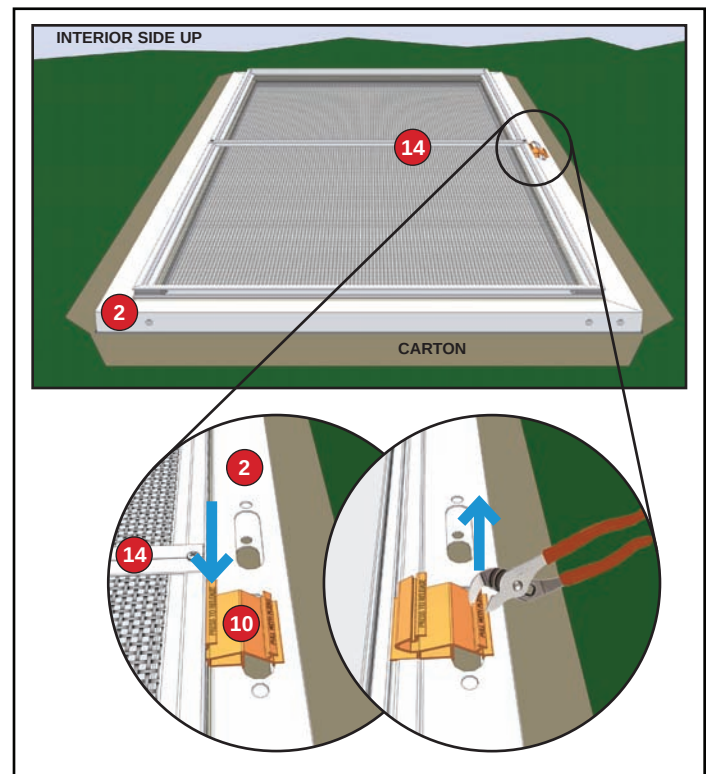

Figure 5
2. Remove insect screen by pressing down on the shipping clip to release insect screen (Figure 5).